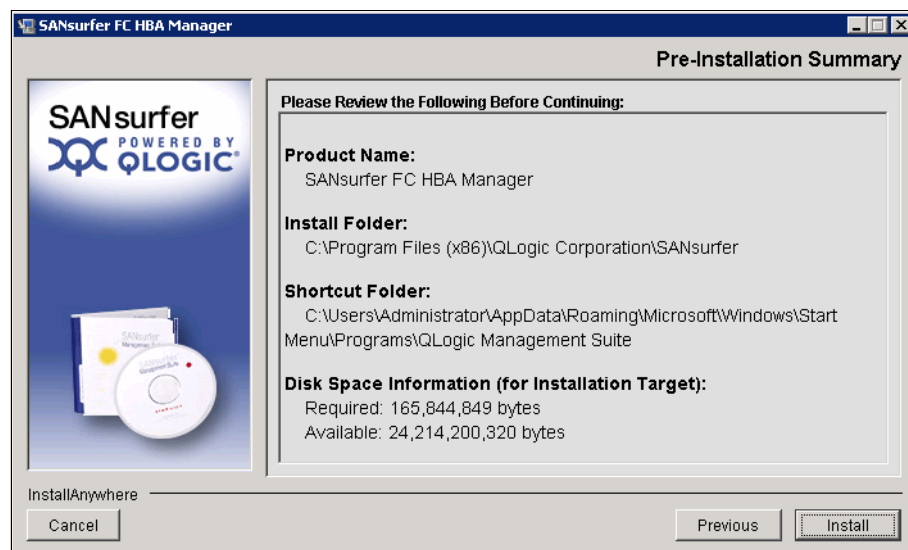

Figure 7-68 Pre-Installation Summary panel
7. In the Pre-Installation Summary panel (Figure 7-68), click **Install**.